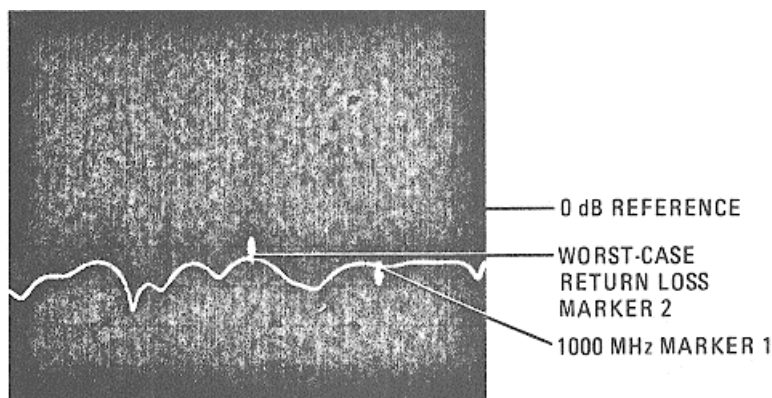

Figure 18. INCIDENT Port Return Loss (100 to 1000 MHz)
- (1) Move 8505A Frequency Control MARKER 2 control to worst-case Return Loss between 100 and 1000 MHz as indicated on CRT. (The point closest to calibration line to left of 1000 MHz MARKER as shown in Figure 18.)